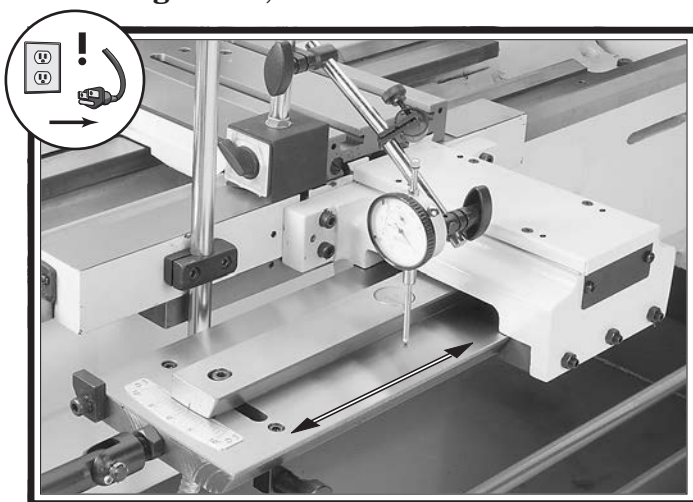

Figure 21. Taper attachment alignment.
- 31.** Mount the dial indicator magnetic base on top of the saddle so that the indicator needle is resting on the attachment table, as shown in **Figure 21**, then zero the indicator.